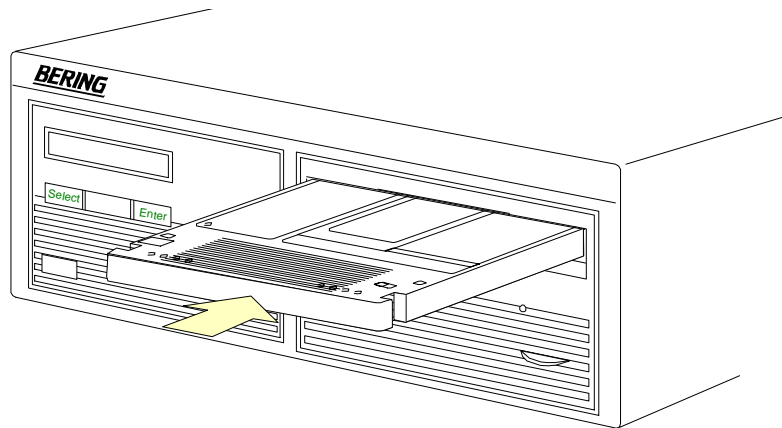

Figure 3-3: Loading a cartridge in the 7618F
1. To write-protect a side of the cartridge, slide the appropriate tab toward the left edge as shown in Figure 3-3.